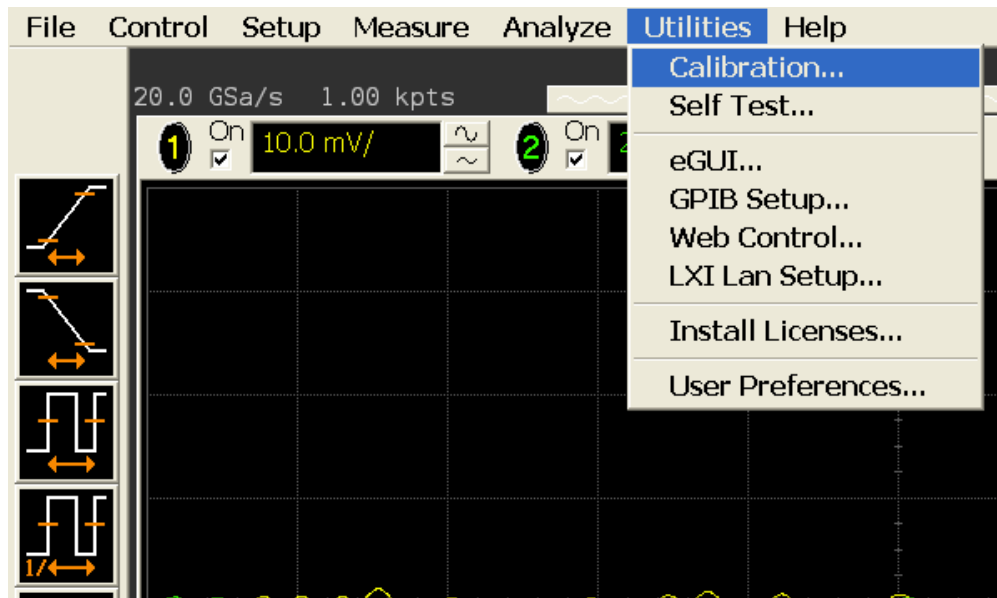

Figure 97 Accessing the Calibration Menu.
- 3 Referring to Figure 97 below, perform the following steps: